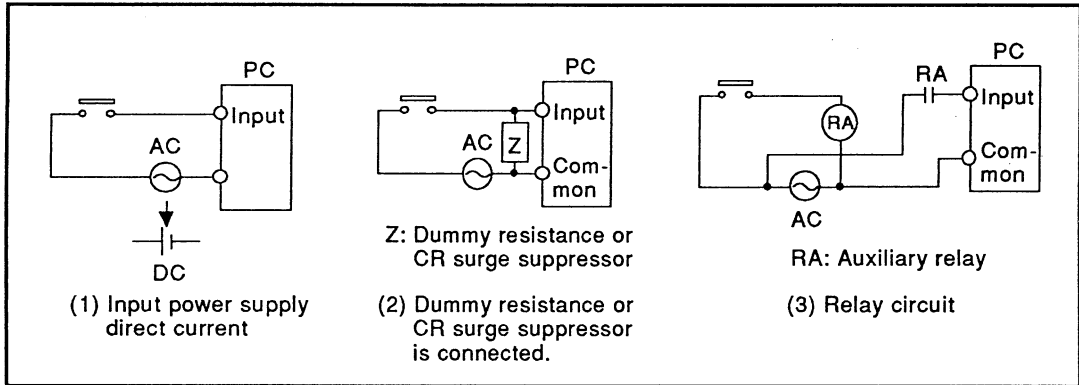

Fig. 6.6 Countermeasures Against Input Inductive Voltage
- 2) If the input device incorporates an operation display neon lamp, or if a limit switch is used as input, voltage is sometimes created by the neon lamp current even when the limit switch contact is open. If this voltage is large, take countermeasures against inductive voltage, as shown in Fig. 6.6 below.
In this case, take the countermeasures given in Fig. 6.6.